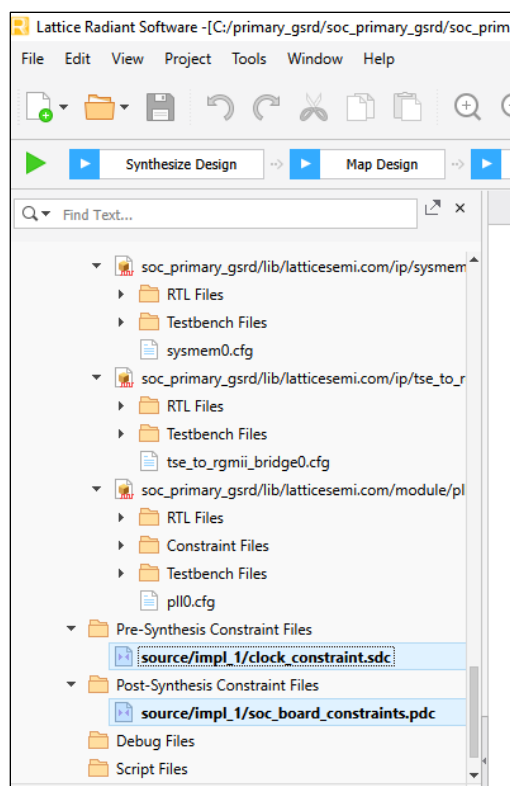

Figure 8.52. Pre and Post-Synthesis Constraint Files Added
8. After you add these constraint files, the Radiant file list is updated as shown in Figure 8.52.